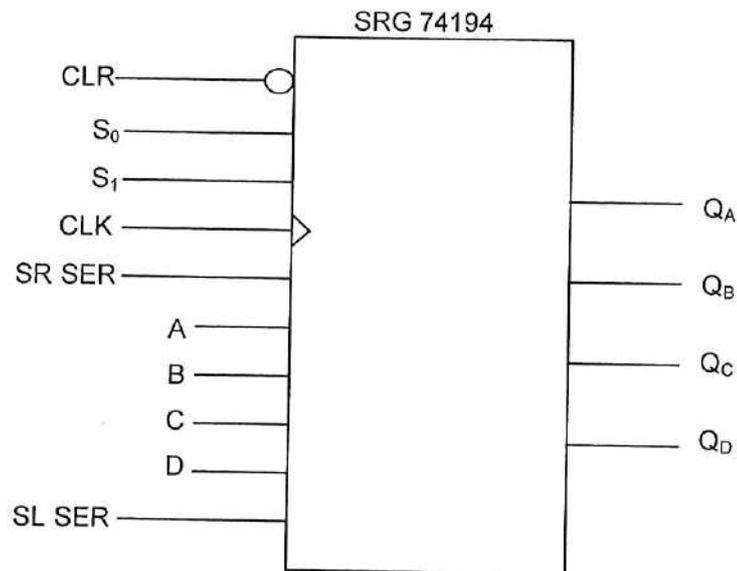

Figure Q4(c)(iv) / Rajah Q4(c)(iv)
- iii. Draw the output waveform in Figure Q4(c)(v) in attachment sheet based on the input given.